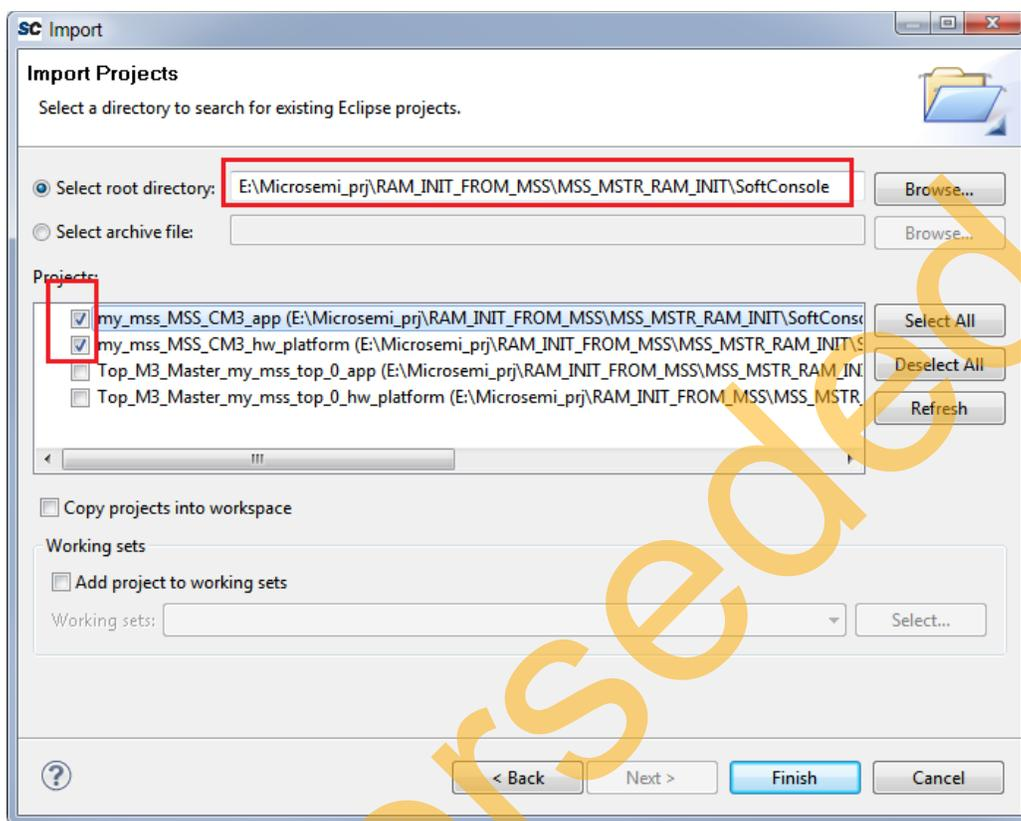

Figure 13 • Import and Select the Existing Projects
- Browse to the root directory where the SoftConsole folder is created as shown in Figure 13. The application and hardware platform check boxes (my_mss_MSS_CM3_app and the my_mss_MSS_CM3_hw_platform) are automatically detected and selected under **Projects**.